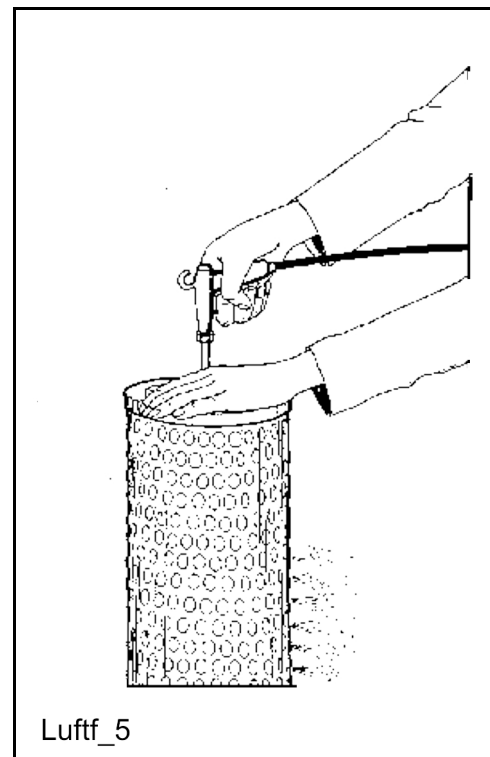

Fig. 164
- Blow out the element from the inside out by moving the pipe up and down until dust no longer emerges (**Fig. 164**). Do not damage the filter element!